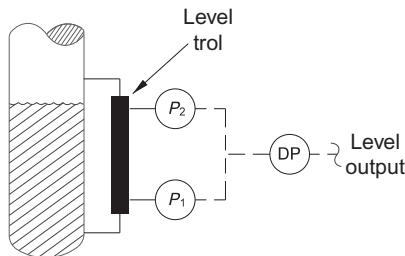

FIG. 41.2 Level is indicated by SG and differential pressure.
Liquid levels are not measured directly. They are indirectly measured by means of a “Level-Trol” (see Fig. 41.2). The pressure difference (DP) between P_1 and P_2 (psi) is measured and then converted into inches of level (D_H) by use of Eq. \(41.1\):
Flows are indirectly measured by use of a flow orifice plate. The DP across the orifice plate is measured and then converted to flow using Eq. \(41.2\) (see Fig. 41.2).
We do not directly measure levels in process units. We measure the pressure difference between the top and bottom level taps (Fig. 41.2). To convert from a differential pressure, to level, we use the specific gravity of the liquid (Eq. 41.2). For a given differential pressure, the indicated level that operators observe on the control panel will:
During the Raffinate Splitter start-up, the liquid in the bottom of the tower was less dense than normal. Thus, the indicated level observed on the control panel was lower than the actual level. Unfortunately, when the liquid fills the space between the lower and upper level taps, the differential pressure measured between the level taps remains constant, regardless of how high the liquid level becomes (Fig. 41.2). This is called being “Tapped-Out.” If the specific gravity of the liquid is 10% higher than normal, the indicated level on the panel will read 110%. But, if the specific gravity of the liquid is 10% lower than normal, the indicated level on the panel will read 90%. As the level rises by 10 ft, or 100 ft, above the top level connection, the indicated level will remain at 90%. Which is exactly what happened at Texas City.